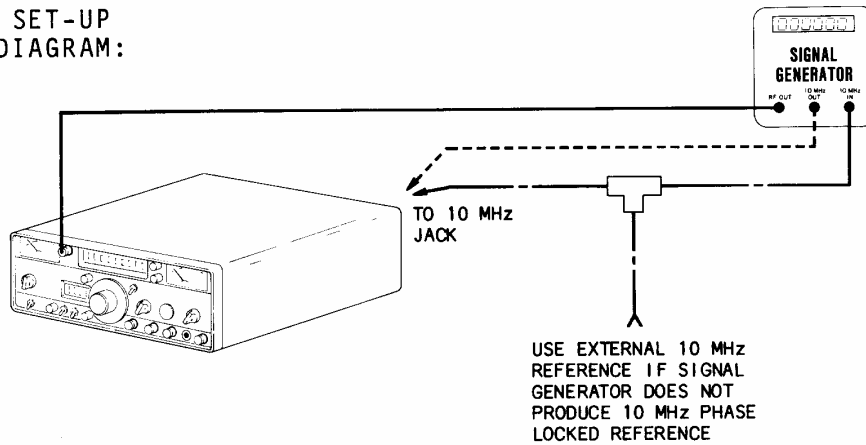

Figure 3-5 Frequency Error Meter Lab
1. Connect FM/AM-500A to accessory test equipment as shown in Figure 3-5.
2. Verify FREQ ERROR Meter (21) indicates 0 Hz (± 0 Hz).
4. Set Power Switch (17) in "LINE" position. Verify FREQ ERROR Meter (21) indicates -300 Hz (± 18 Hz).
5. Rotate VAR TONE FREQ Thumbwheels (18) to "1030.0".
6. Rotate Frequency Error Meter Range Switch (19) to "AUDIO 30". Verify FREQ ERROR Meter (21) indicates -30 Hz (± 1.8 Hz).
7. Rotate VAR TONE FREQ Thumbwheels (18) to "1003.0".
8. Rotate Frequency Error Meter Range Switch (19) to "AUDIO 3". Verify FREQ ERROR Meter (21) indicates -3 Hz (± 0.18 Hz).
9. Rotate VAR TONE FREQ Thumbwheels (18) to "1000.0". Verify FREQ ERROR Meter (21) indicates 0 Hz (± 0.18 Hz).
10. Rotate VAR TONE FREQ Thumbwheels (18) to "0997.0". Verify FREQ ERROR Meter (21) indicates +3 Hz (± 0.18 Hz).
11. Rotate VAR TONE FREQ Thumbwheels (18) to "0970.0".